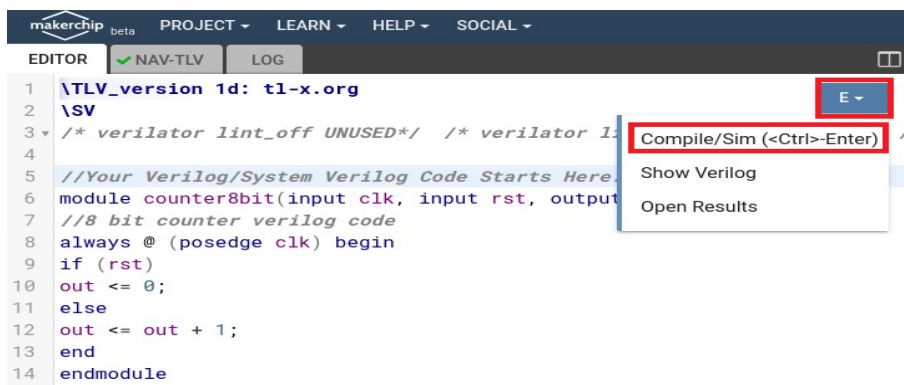
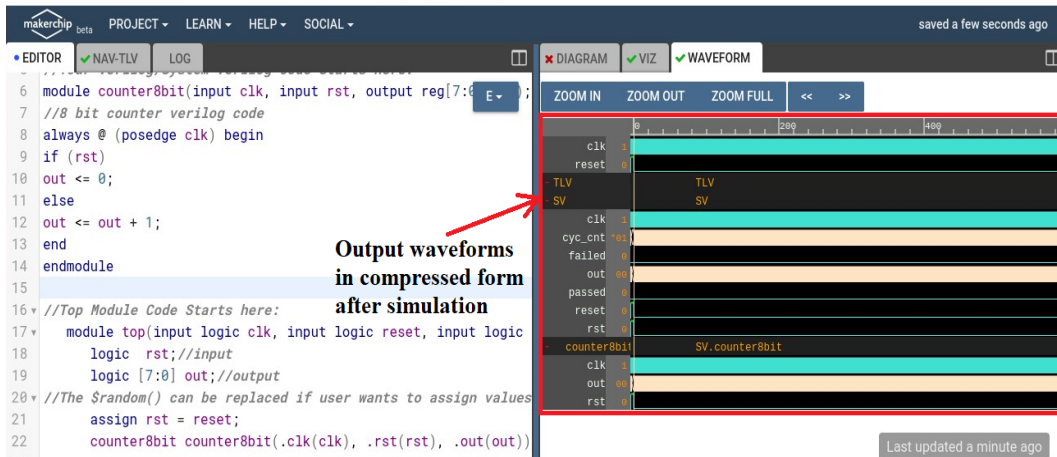

Figure 11.16: Compiling after removing lintoff errors
Figure 11.19: Output waveforms in compressed form of 8 bit Counter
- Next, click on the **Editor** tab in the editor as shown in Fig. 11.16, then click on **Compile/Sim** button to compile the verilog code.
- Now click on the **Editor** tab and then click on **Compile/Sim** button in the editor as shown in Fig. 11.16, it will display the following waveform window as shown in Fig. 11.19. This means that the verilog code of 8 bit Counter is successfully
compiled. Kindly, note that in Fig. 11.19, inputs and output waveform are in the compressed form.
16. Fig. 11.20 shows the expanded view of inputs and output waveforms of 8 bit counter. The waveforms in Fig. 11.19 can be expanded by clicking on **Zoom In** button as shown in Fig. 11.20.